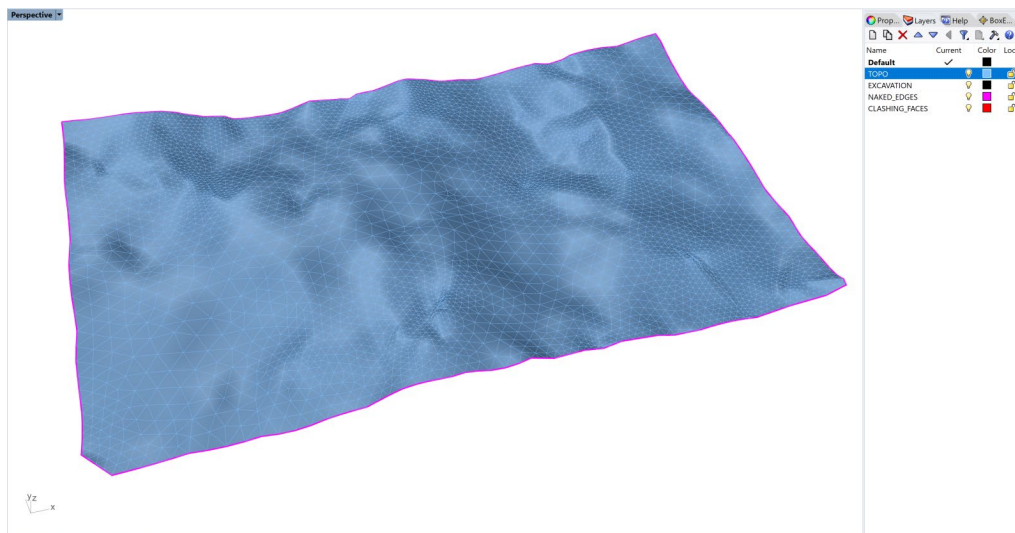

Figure 69: Remeshed and fixed topographic mesh. (The grid is not shown.)
13. Select the topo mesh only and fix the crack using **_GHeal** → *AutomaticHeal* → *IssuesToFix*, set *MendCracks* = *Yes* and all others to *No*; press **Enter** and keep *Parameters* = *Automatic*. Now the topo mesh contains no issues and has a single naked poly-edge outlining its boundary (Figure 69).